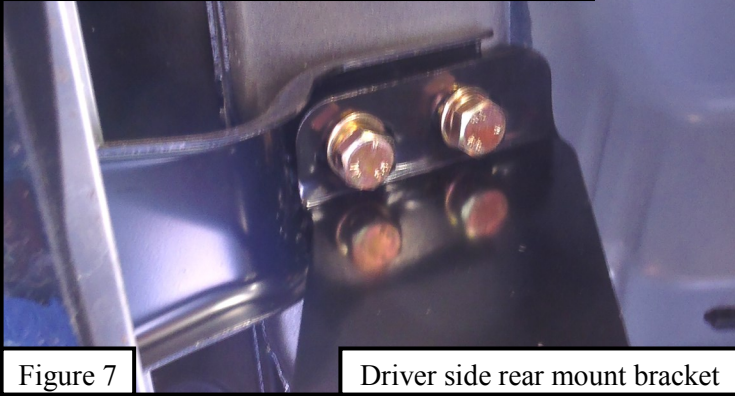

Figure 7
5. Move to the rear drivers side and attach the driver side rear mount bracket (Item 4) over the factory rocker panel bracket the same way as the front bracket was done in **Step 4 (Figures 7 & 8)**. Do not fully tighten at this time.